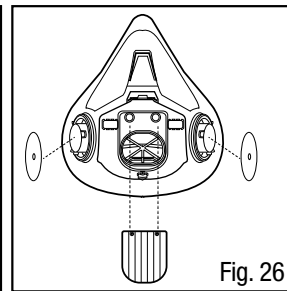

Fig. 26
4. Replace 3M™ Exhalation Valve 6583 by inserting stems into the two holes until they are visible from inside the facepiece and then pulling the stems through until they are seated and secured (Fig. 26).